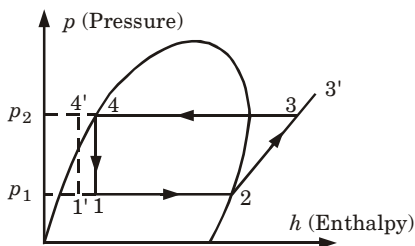

Fig. 5.12.4. Effect of increase in delivery pressure.
1. Sub-cooling is the process of cooling the liquid refrigerant below the condensing temperature for a given pressure. The effect of sub-cooling in p - h diagram is shown in Fig. 5.12.4.